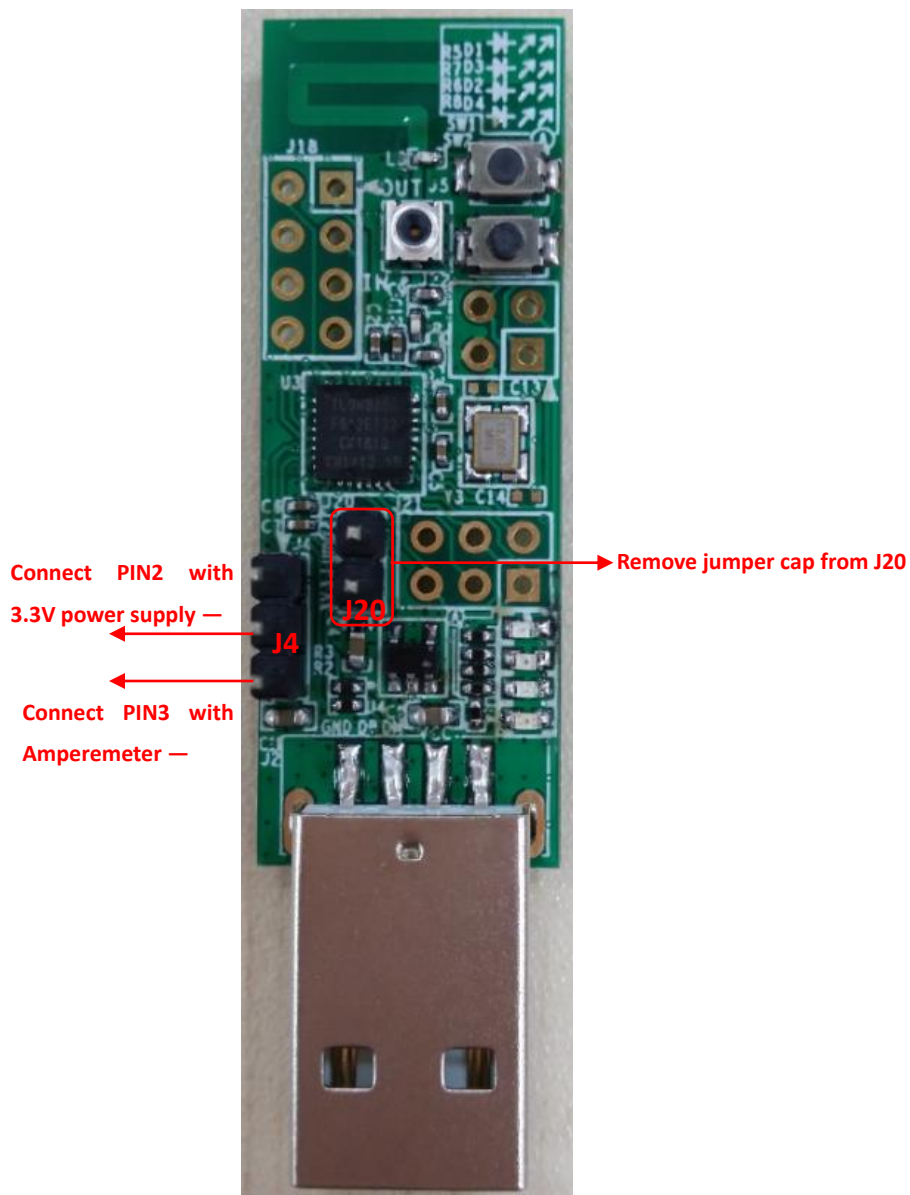

Figure 5 Connection chart to test sleep current
- 1) Remove jumper cap from J20 of 8266 dongle, as shown in Figure 5.